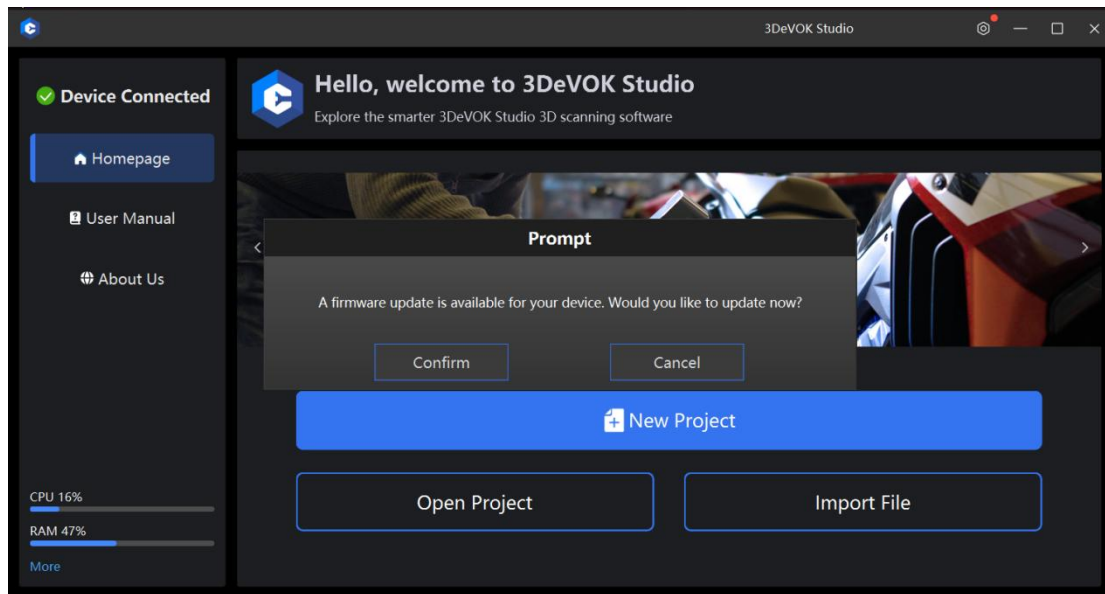

Figure 5-4 Firmware Version Check and Update Prompt
1. Connect the device. When online, the software will automatically check whether the device's firmware and screen have been updated to the latest versions, and display corresponding prompts, as shown in Figure 5-4.